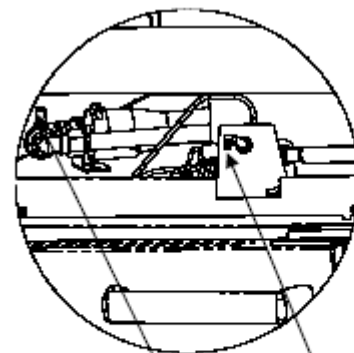

Figure 10
3.1.6 Resetting Low Rate Screw (Figure 10)